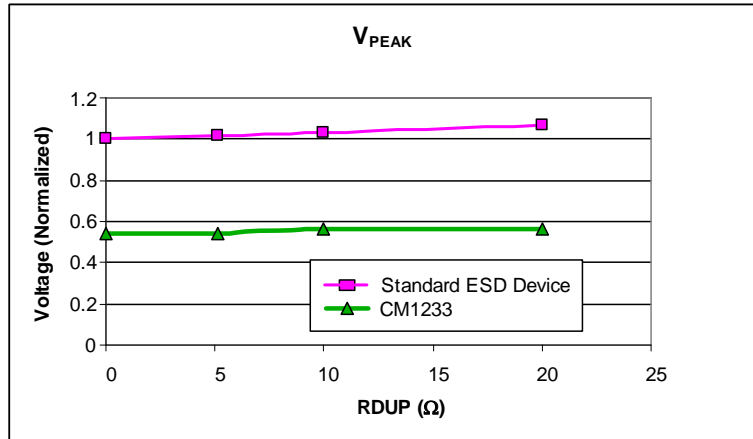
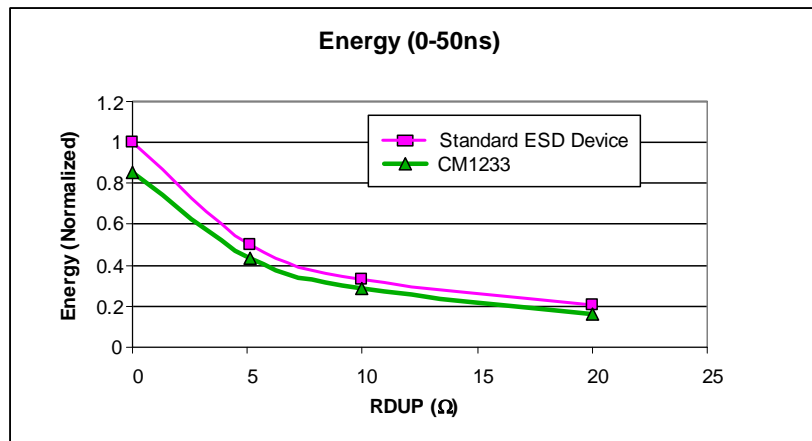
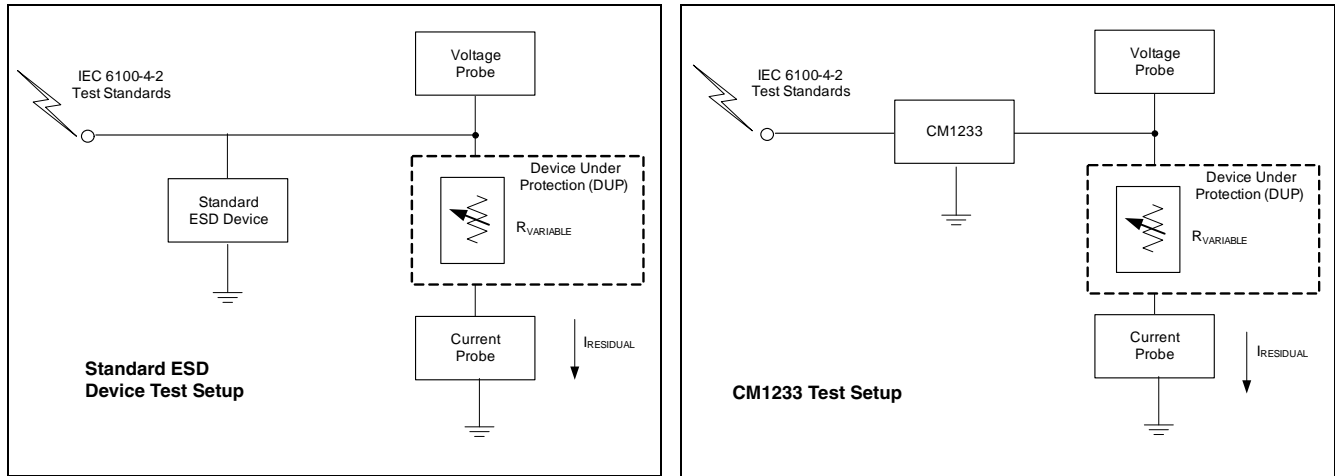

Figure 4. VPeak (8KV IEC-61000 4-2 ESD Contact Strike) and VClamp vs. Loading (RDUP)*
Figure 5. Energy Dissipated in DUP vs RDUP*
Figure 6. Test Setups: Standard Device (Left) and CM1233 (Right)
Figure 4 shows that the CM1233 (*PicoGuard XS* ESD protector) lowers the peak voltage and clamping voltage by 45% across a wide range of loading conditions in comparison to a standard ESD protection device. Figure 5 also indicates that the DUP/ASIC protected by the CM1233 dissipates less energy than a standard ESD protection device. This data was derived using the test setups shown in Figure 6.
* RDUP is the emulated Dynamic Resistance (load) of the Device Under Protection (DUP). See Figure 6.